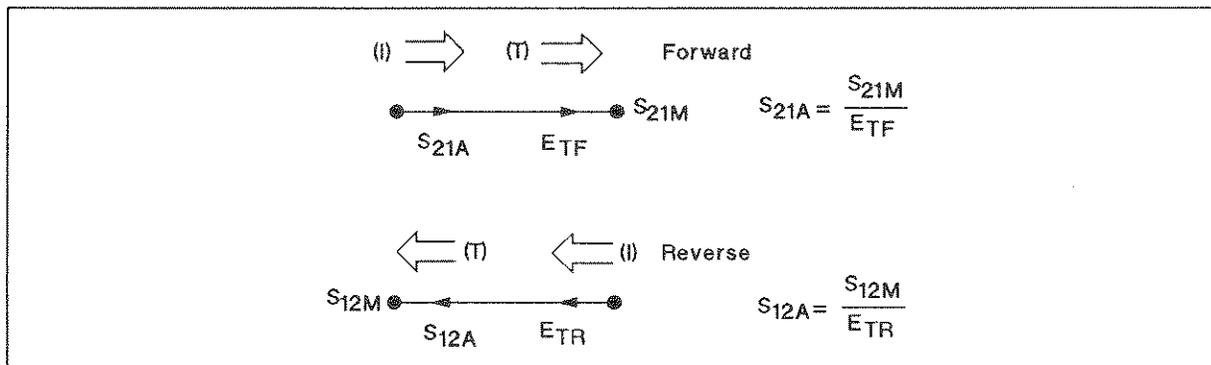

Figure 7-36. Transmission Coefficient
**Measuring Transmission Coefficient.** The transmission coefficient is measured by taking the ratio of the incident signal (I) and the transmitted signal (T) (Figure 7-36). Ideally, (I) consists only of power delivered by the source, and (T) consists only of power emerging at the test device output.